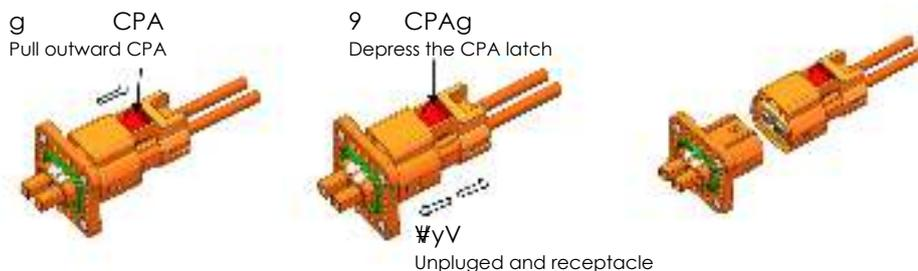

Figure 4
4.1 g CPA go 4o Pull out the CPA latch. See Figure 4.
Push down on the CPA latch of the plug and at the same time pull out the plug until it stops. At this point the connector is not fully connected. See Figure 4.
Don't pull out the cable or the sealing ring at the cable. See Figure 4.